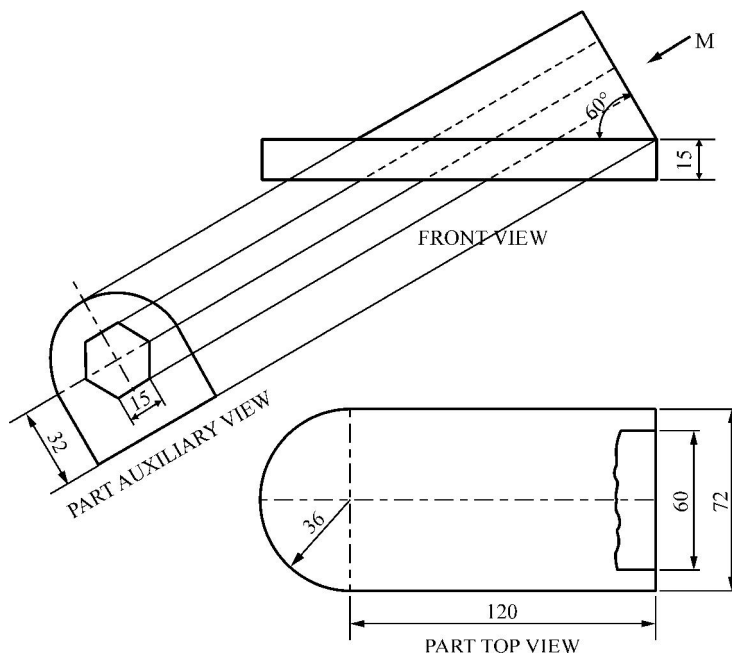

Fig. 5.2
- (b) Fig. 5.2 shows partial auxiliary view, incomplete top view and front view. Complete the top view with the help of given views.